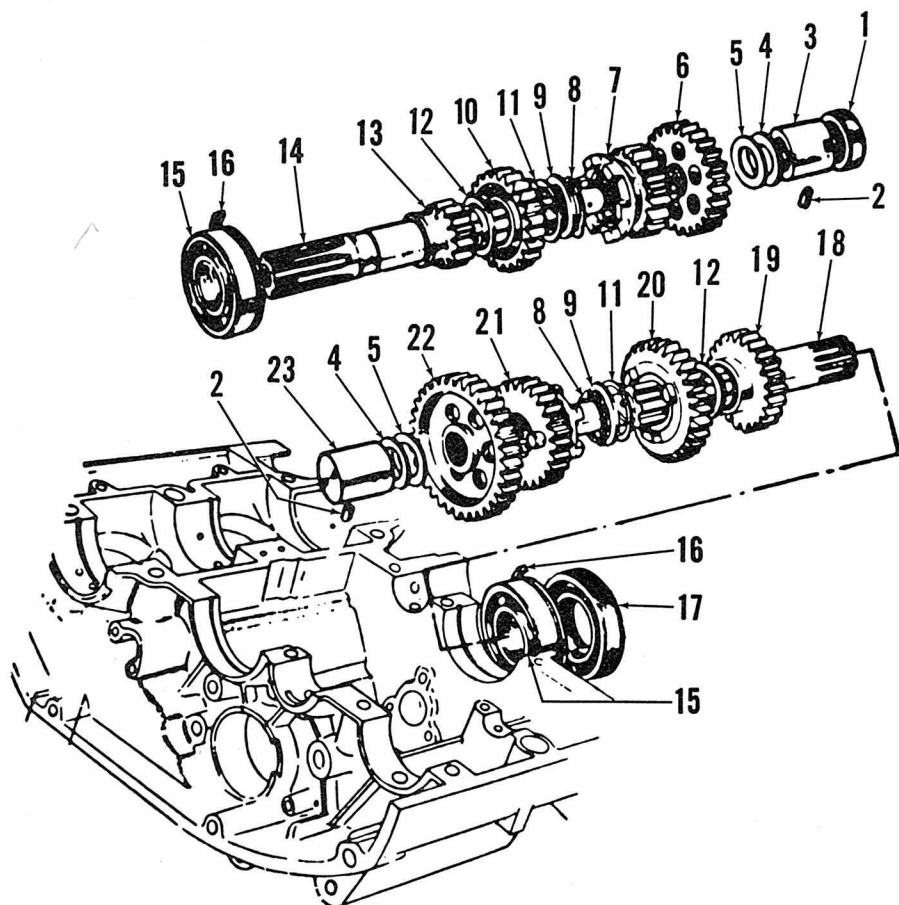
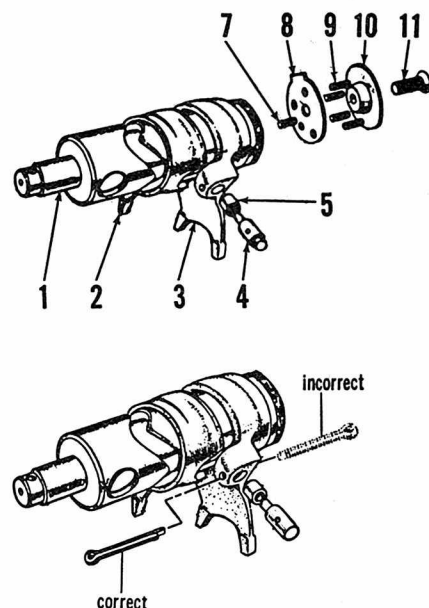

Fig. S4-16—Exploded view of S32-2 transmission assembly. T10 transmission is similar.
Fig. S4-19—Exploded view of four speed gear shift assembly. Cotter pins in guide pins (4) should be installed from middle of shifter assembly outward.
Gear shift forks should have 0.2-0.4 MM (0.008-0.016 in.) clearance in grooves. Forks and/or gears should be renewed if clearance exceeds 0.8 MM (0.032 in.). Fourth pinion (6—Fig. S4-16) and low gear (22) should
have very little side play, but be free to turn. Side play of gears (6 & 22) is adjusted by adding adjusting washers as shown in Fig. (S4-17). Third pinion (10) and second gear (20) should have very little side play, but be free to rotate. Side play of gears (10 & 20) is adjusted by adding adjusting washers as shown in Fig. S4-18. Cotter pins for shifter fork pins (Fig. S4-19) should be installed from inside of fork toward outside as shown in lower view. Countershaft bushing (3—Fig. S4-16) has open end, drive shaft bushing (23) has closed end.